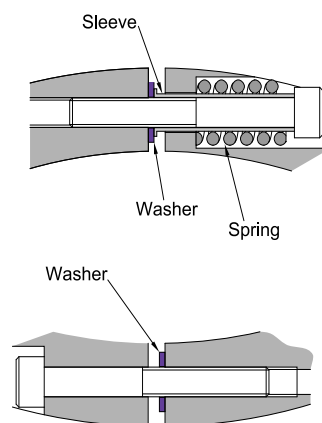

Figure 32 – Rope Guide Inner Band Spring and Sleeve Arrangement
- Figure 32 . Loosely tighten the socket head capscrew.